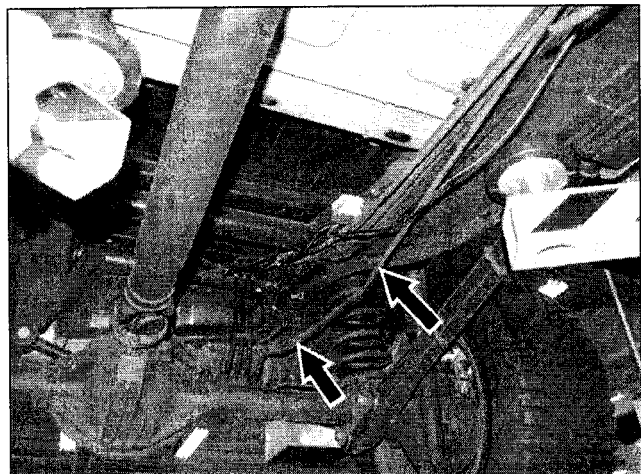

Figure 5
6. Remove fuel return line (arrows, Figure 5) from vehicle frame: